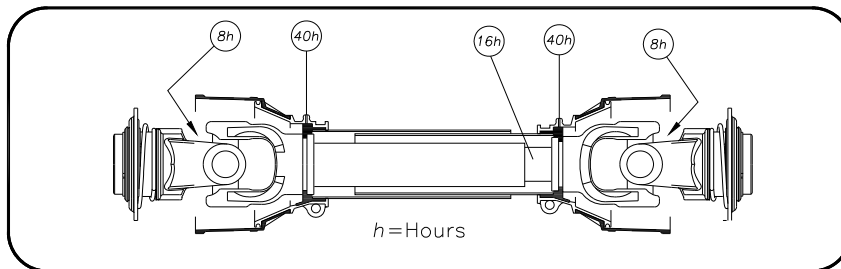

Figure 7. *Drive Line Lube Chart*
- Grease driveline parts after the number of hours used as shown below (Fig. 7).